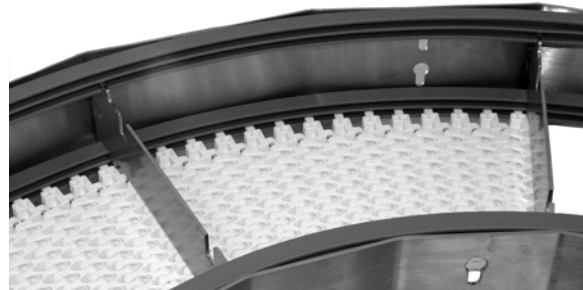

Figure 18
3. Feed the ends of the belt through the top and bottom of the curved frame sections (Figure 18).